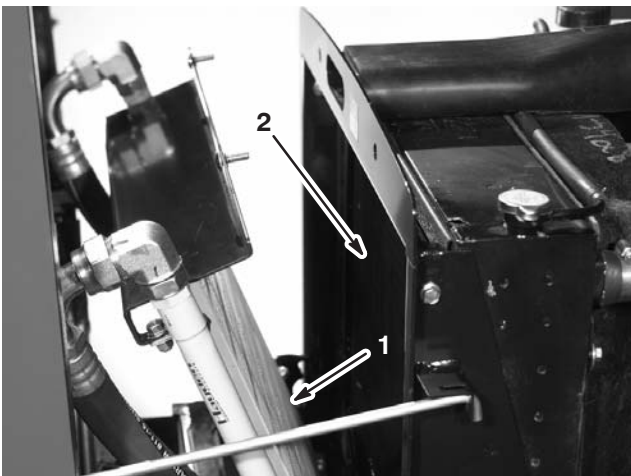

Figure 53
3. Pivot the oil cooler rearward. Clean both sides of the oil cooler and radiator area (Fig. 53) thoroughly with compressed air.